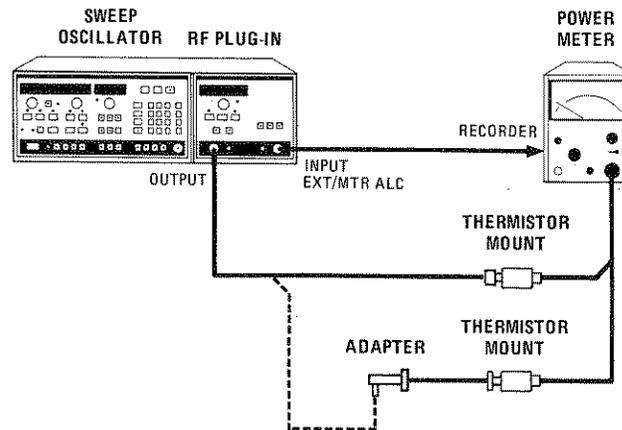

Figure 4-3. Power Meter Leveling Test Setup (Using HP 432A Power Meter)
14. Connect equipment as shown in Figure 4-3 using HP 8478B Thermistor Sensor.